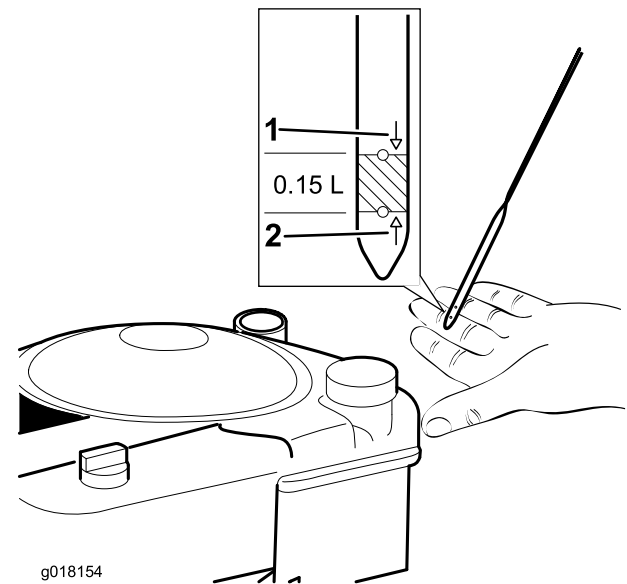

Figure 18
- Remove the dipstick and wipe it with a clean cloth (Figure 18).
- Slowly** pour oil into the oil fill tube, wait 3 minutes, and check the engine oil level on the dipstick by wiping the dipstick clean and then inserting it into the tube (Figure 18) (Max. fill: 20 oz. (0.59 l), type: SAE 30 detergent oil with an API service classification of SF, SG, SH, SJ, SL, or higher).
- Fill the engine with oil until the dipstick indicates that the engine oil level is correct as shown in Figure 18. If you overfill the engine with oil, remove the excess oil.